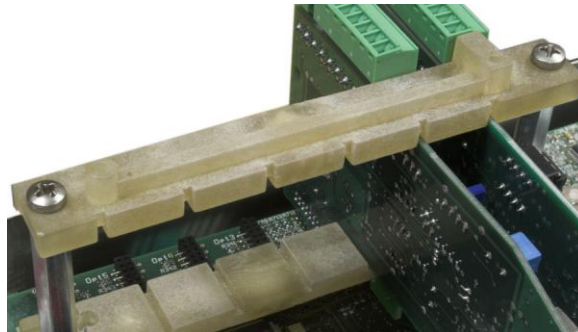

Figure 4-40: Upper Card Guide
7. Remove the two screws attaching the upper card guide, shown in Figure 4-40, and lift the guide from its stand-offs.
1. Loosen and remove the screws holding the upper card guide (Figure 4-40) in place on its stand-offs.
5. Replace the upper card guide, taking care to position the upper edge of the option board/s in the slot/s in the upper guide (see Figure 4-40).